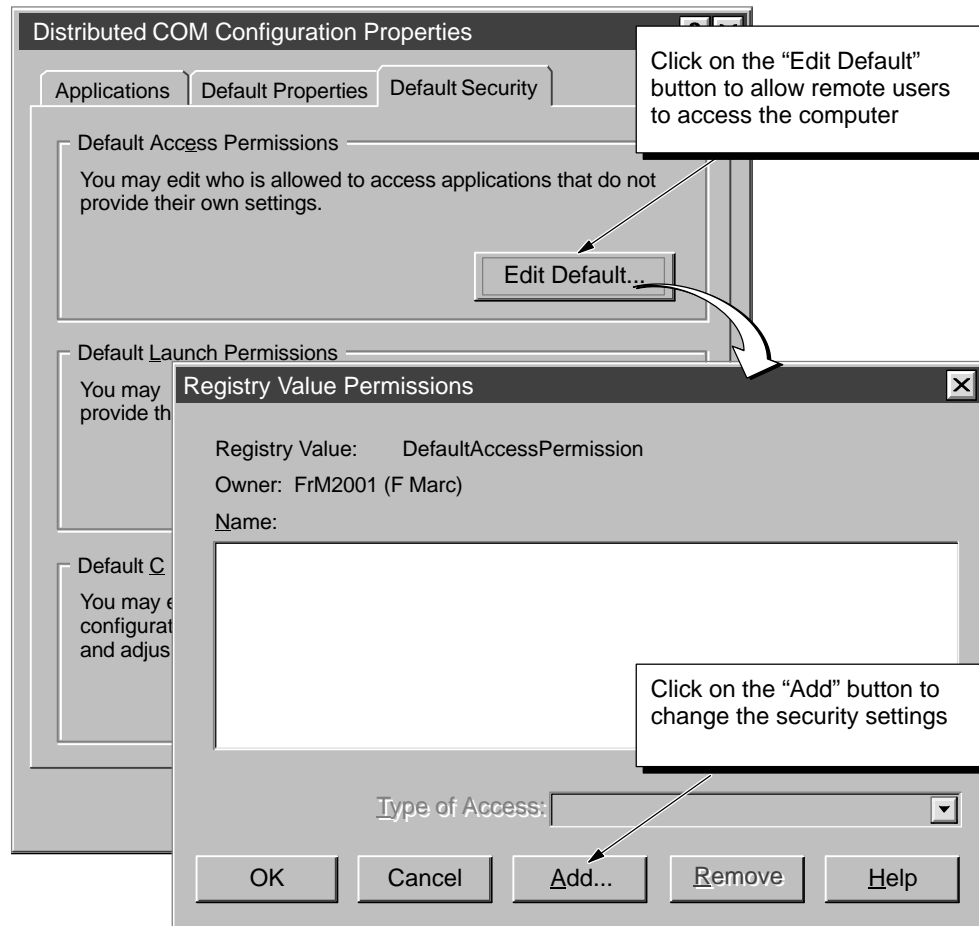

Figure E-15 Configuring the Default Access Permissions for DCOM
1. Click on the “Default Security” tab to display the security options for DCOM. See Figure E-15.
8. Click on the "OK" button of the "Registry Value permissions" dialog box to enter the changes to the default access permissions. The "Registry Value permissions" dialog box closes and displays the "Distributed COM Configuration Properties" dialog box (Figure E-15).